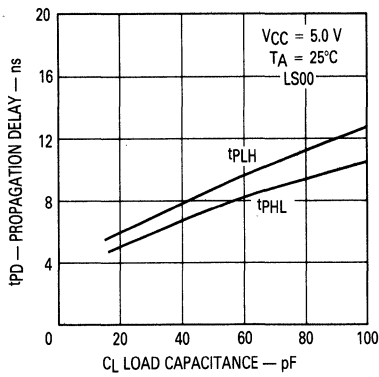
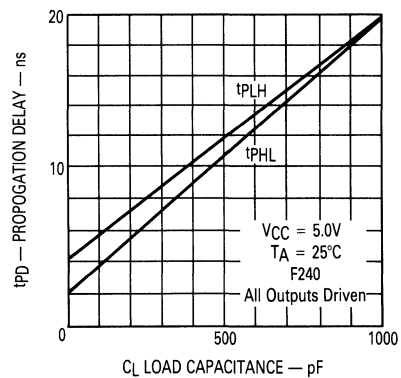

FIGURE 2-11a*
FIGURE 2-11f
*Data for Figures 2-11a through 2-11e was taken with only one output switching at a time. Figure 2-11F data was taken with all 8 inputs of the F240 tied together.